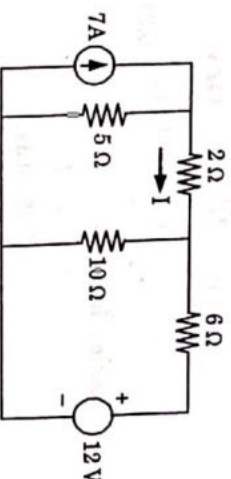

Fig. 2.
- a. Find current through 2 Ω resistance using superposition theorem in Fig. 2.